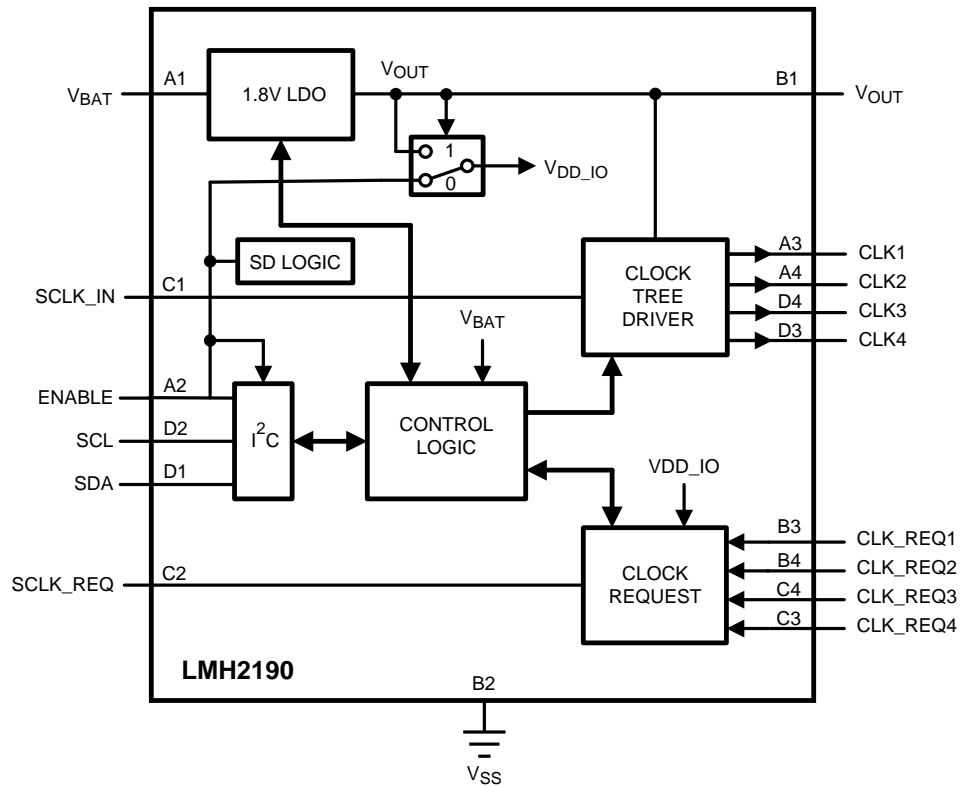

Figure 6. LMH2190 Block Diagram
Unless otherwise specified, all limits are specified at  $T_A = 25^\circ\text{C}$ ,  $V_{\text{BAT}} = 3.5\text{V}$ ,  $f_{\text{SCLK\_IN}} = 26\text{ MHz}$ ,  $C_{\text{OUT}} = 2.2\ \mu\text{F}$ ,  $V_{\text{DD\_IO}} = 1.8\text{V}$  (See Figure 6) (3),  $I_{\text{OUT}} = 1\text{ mA}$ , Registers are in default setting. **Boldface** limits apply at the temperature extremes.